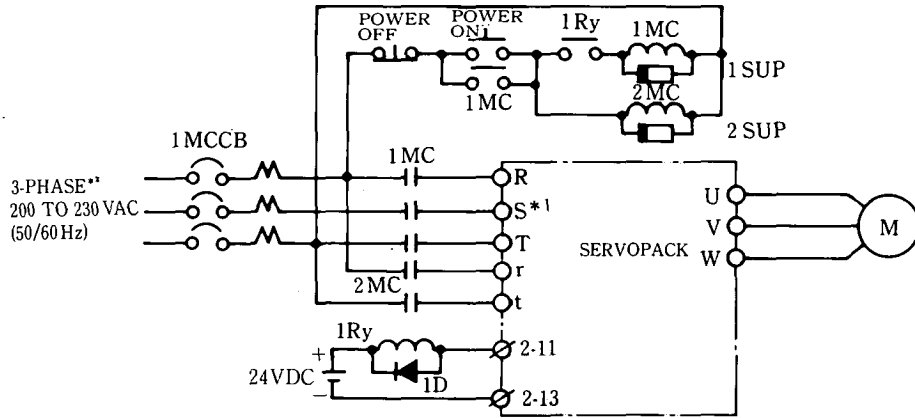
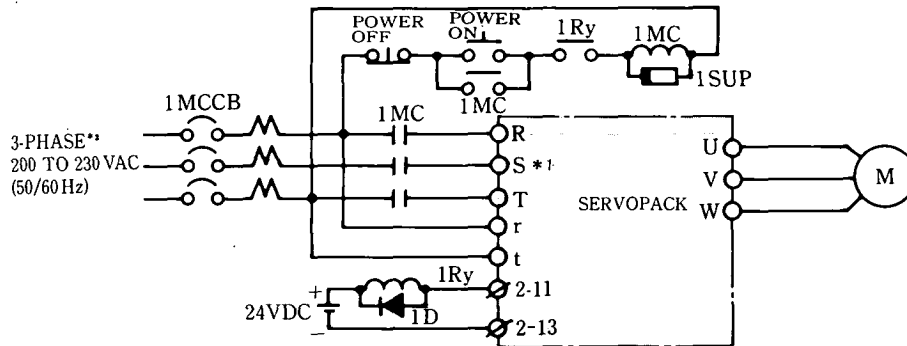

Fig. 5.17 Typical Connection when Both Control Power Supply and Main Power Supply are Turned ON/OFF Simultaneously
Fig. 5.18 Typical Connection when only Main Circuit Power Supply is Turned ON/OFF
For main circuit power supply (R, S, T) \*1 or control power supply (r, t) to turn on in sequence, they are turned on simultaneously or the control power supply is turned on before the main circuit power supply. (see Figs. 5.17 and 5.18.)
For power supply to turn off in sequence, both power supplies are turned off simultaneously (including momentary power loss) (Fig. 5.17) or the main circuit power supply is turned off before the control power supply (Fig. 5.18).
(Precautions for Figs. 5.17 and 5.18)
- In power supply ON-OFF sequence in Fig. 5.17, it takes approx. 1 second at maximum to establish a normal signal in the control circuit (1Ry is turned on).
However, in the sequence in Fig. 5.18, it is not necessary since the control power supply is always turned on.